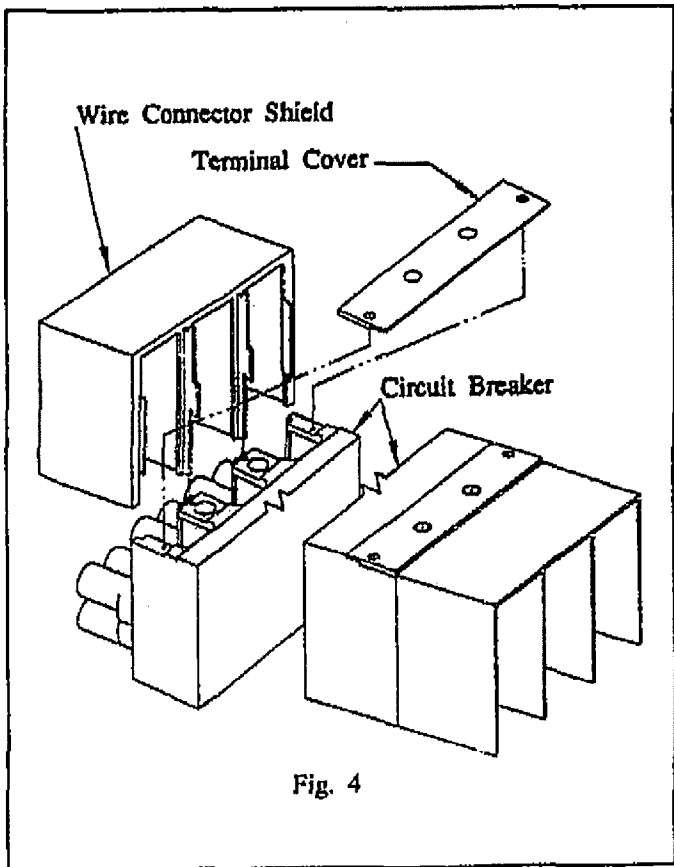

Fig. 4
3. Remove terminal cover and any existing wire connectors from circuit breaker. (Fig. 4)
11. After all connectors are installed slide wire connector shield into place on end of circuit breaker (Figure 4).
12. Replace terminal cover, which was removed from circuit breaker in step 3. The two tabs on the wire connector shield should fit into the notches in the terminal cover. Tighten (2) 6-32 screws securely. Wire connector shield should be held securely when properly installed.